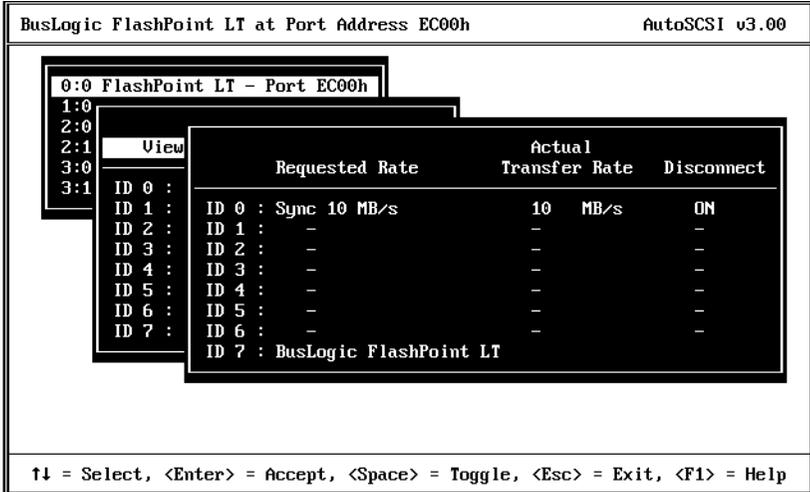

Figure 3-14. SCSI Device Handshake Window
2. The SCSI Device Handshake window opens (see Figure 3-14). The transfer rate initially requested for the device and the actual transfer rate of the scanned device are listed in this window. Notice that the requested and the actual transfer rates may be different. If during the transfer rate negotiation, the device is found to be incompatible with the requested transfer rate, an acceptable rate is negotiated for the device.